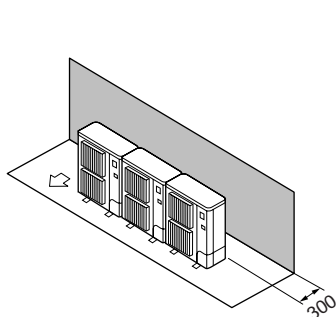

Fig.2-10
- Obstacles at rear only (Fig. 2-10)